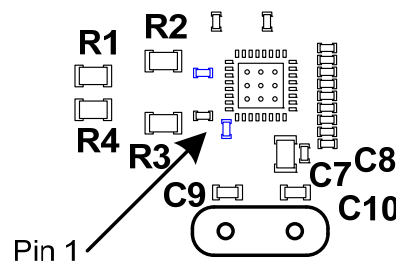

Figure No. 3
2. These caps are shown as C7 & C8 in Figure No. 3 below.
1. Place the 25.000 MHz crystal and the associated 15 – 33 ρ F capacitors as close together as possible and as close to the LAN8710I QFN (XTAL1, pin 5 & XTAL2, pin 4) as possible. They should form a tight loop. Keep the crystal circuitry away from any other sensitive circuitry (address lines, data lines, Ethernet traces, etc.). Refer to Figure No. 3 for crystal component placement (C9 & C10).